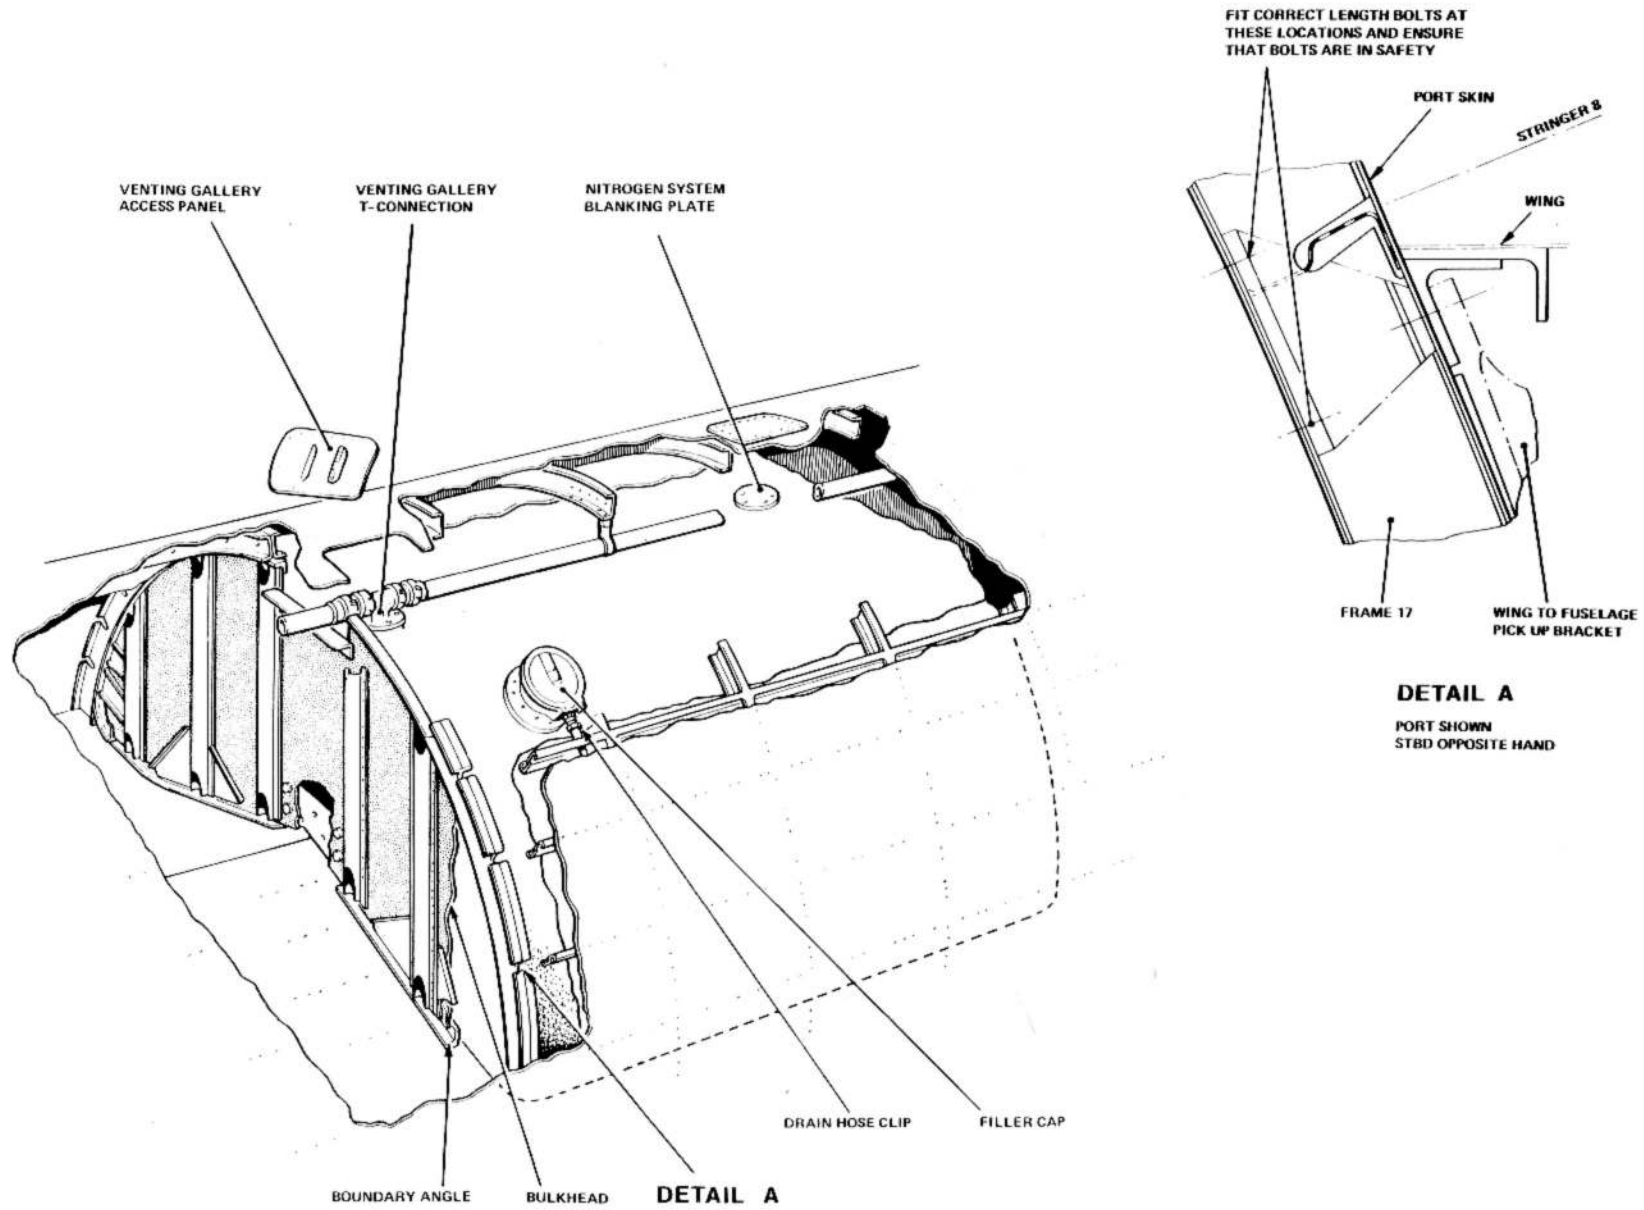

FIG. 8. No. 2 FUEL TANK REMOVAL
KEY TO FIG. 8 (No. 2 FUEL TANK REMOVAL)
4. *Fit the correct length bolts at frame 17 bulkhead (fig.8 detail A).* ▶